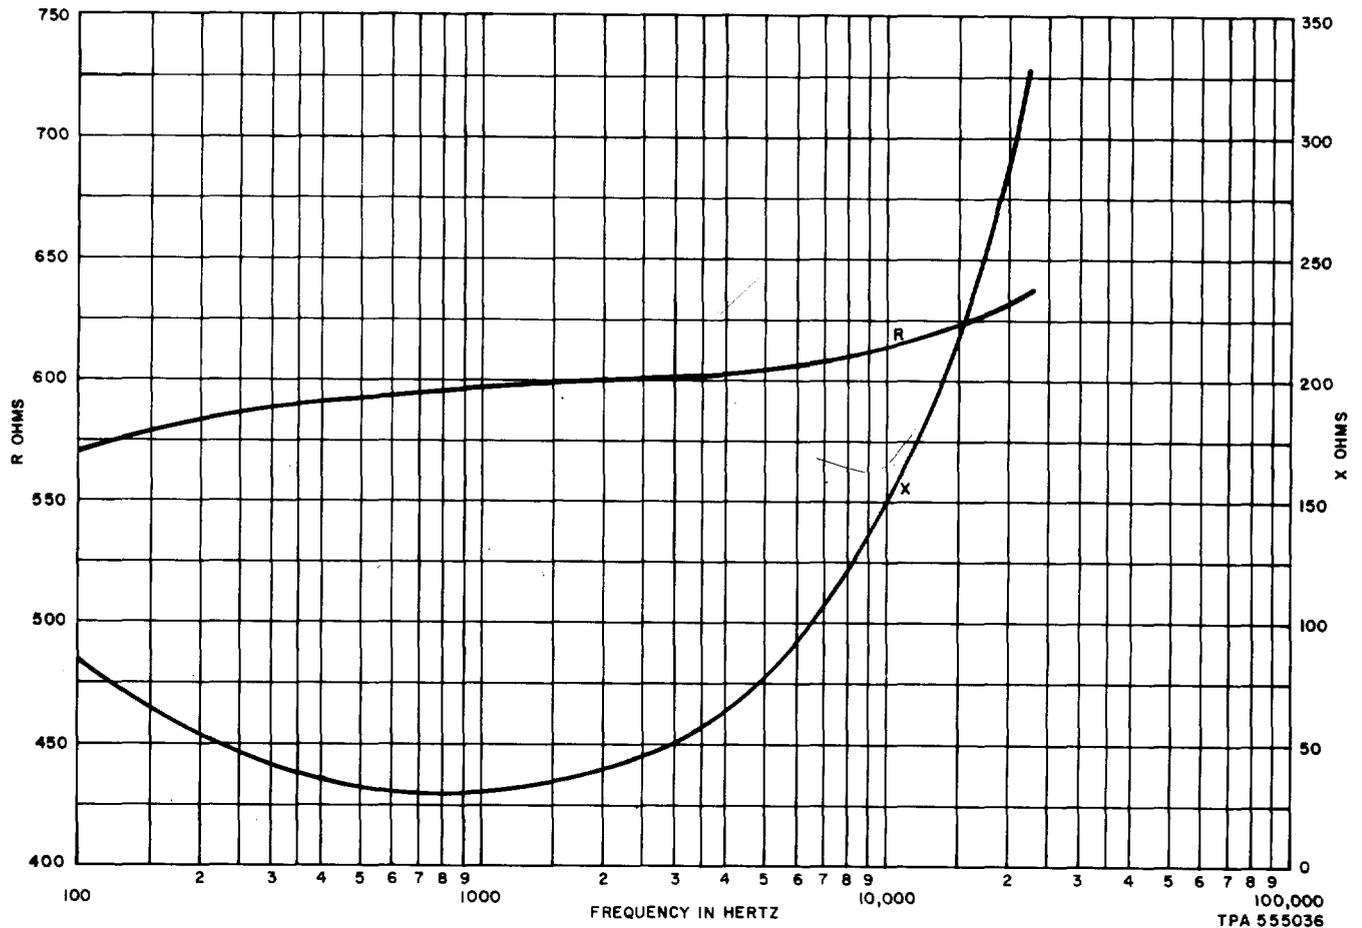

Fig. 4—F58122 Amplifier—Input Impedance—600-Ohm Termination
**4.05** This amplifier presents a nominal input and output impedance of either 600 or 1200 ohms, and it may present 600 ohms to the input equipment and 1200 ohms to H88-loaded exchange cable pairs. The reverse may be to present 1200 ohms to the input circuit and 600 ohms to the output circuit. The input and output impedance (600- or 1200-ohm termination) at various frequencies is shown in Fig. 4, 5, 6, and 7.